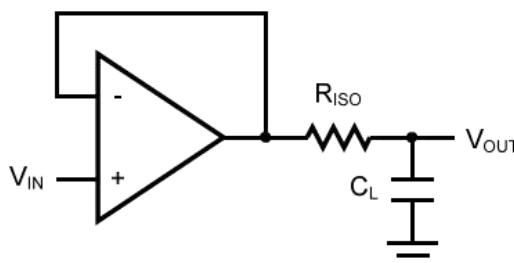
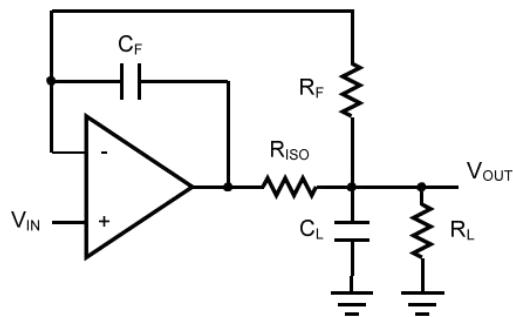

Figure 2. Indirectly Driving a Capacitive Load Using Isolation Resistor
Figure 3. Indirectly Driving a Capacitive Load with DC Accuracy
The AD809X family is optimized for bandwidth and speed, not for driving capacitive loads. Output capacitance will create a pole in the amplifier's feedback path, leading to excessive peaking and potential oscillation. If dealing with load capacitance is a requirement of the application, the two strategies to consider are (1) using a small resistor in series with the amplifier's output and the load capacitance and (2) reducing the bandwidth of the amplifier's feedback loop by increasing the overall noise gain. Figure 2. shows a unity gain follower using the series resistor strategy. The resistor isolates the output from the capacitance and, more importantly, creates a zero in the feedback path that compensates for the pole created by the output capacitance.
The circuit in Figure 3 is an improvement to the one in Figure 2.  $R_F$  provides the DC accuracy by feed-forward the  $V_{IN}$  to  $R_L$ .  $C_F$  and  $R_{ISO}$  serve to counteract the loss of phase margin by feeding the high frequency component of the output signal back to the amplifier's inverting input, thereby preserving the phase margin in the overall feedback loop. Capacitive drive can be increased by increasing the value of  $C_F$ . This in turn will slow down the pulse response.